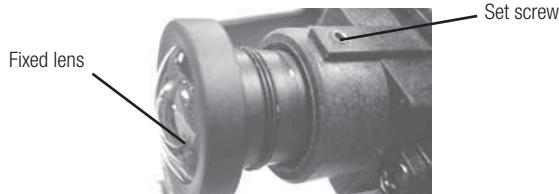

Figure 5
**Fixed Lens:** Loosen the set screw in the lens mount. Manually rotate the lens until a clear picture is achieved. Once the focus is set, retighten the set screw (**Figure 5**).